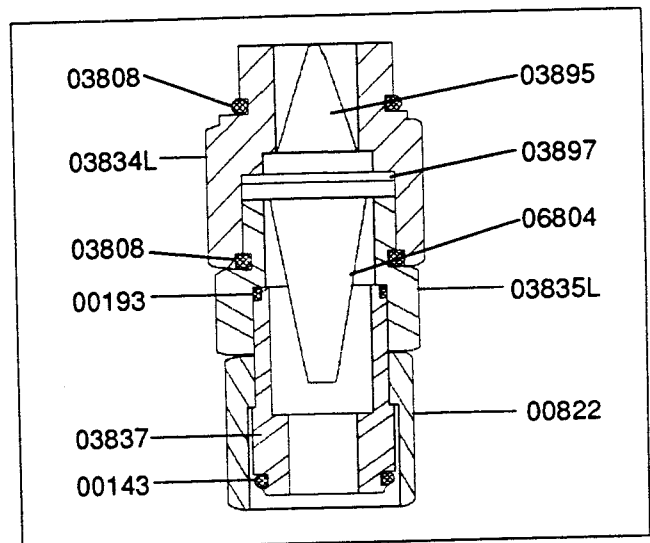

Figure 26
22.0 OXYGEN INLET ASSEMBLY - BOTTOM REAR, RIGHT OF VALVE BLOCK (FIGURE 26)
23.0 ALARM RETAINER CAP ASSEMBLY - BOTTOM OF VALVE BLOCK (FIGURE 26)